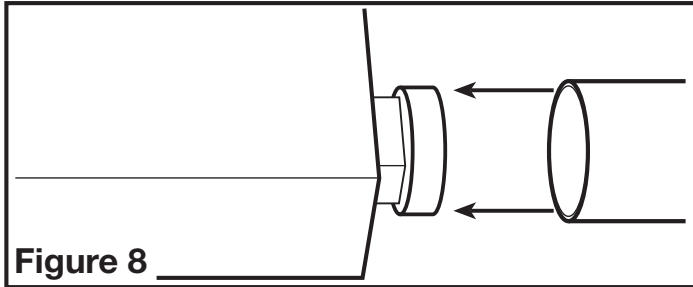

Figure 8
1. Remove any tape that might be holding the damper in place. Connect the ducting to the fan's duct collar (**Figure 8**) and secure in place using tape or screw clamp. Always duct the fan to the outside through a wall or roof cap.